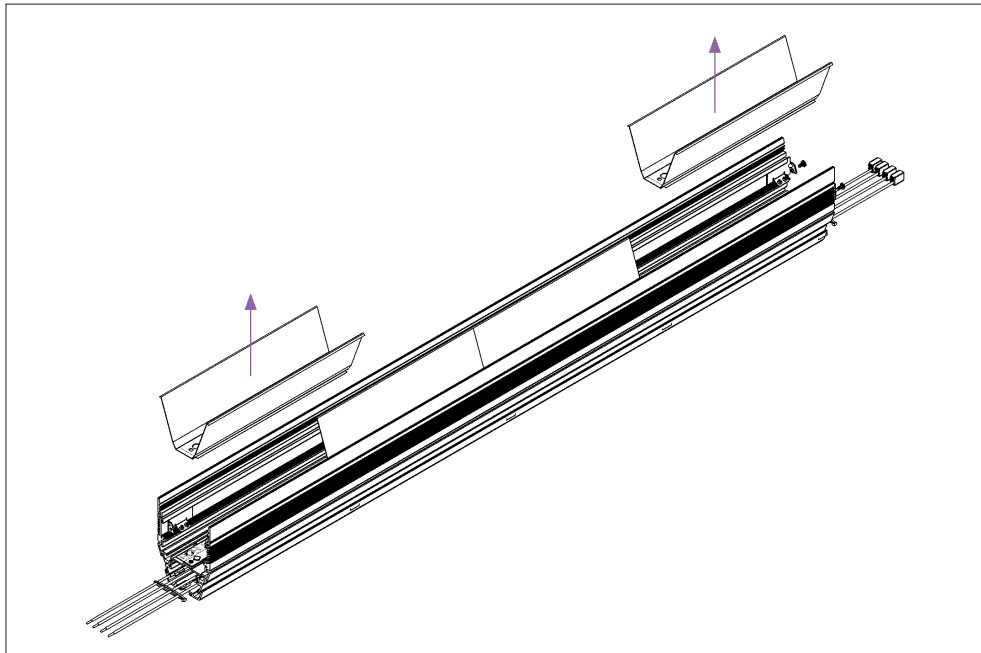

fig. 11
2. Remove the fixture's first and last reflectors (see fig. 11). To remove: